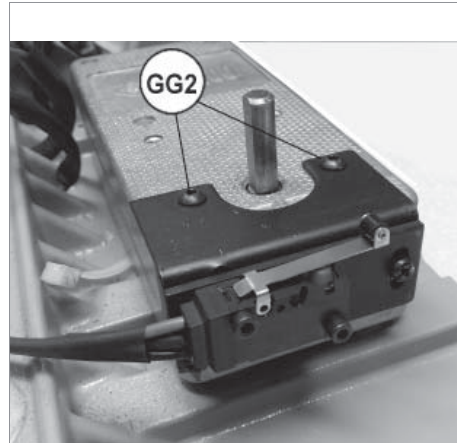

Fig. 66
- 4) Loosen 2 screw (GG2) and remove limit switch (FF) assembly (Fig. 66).